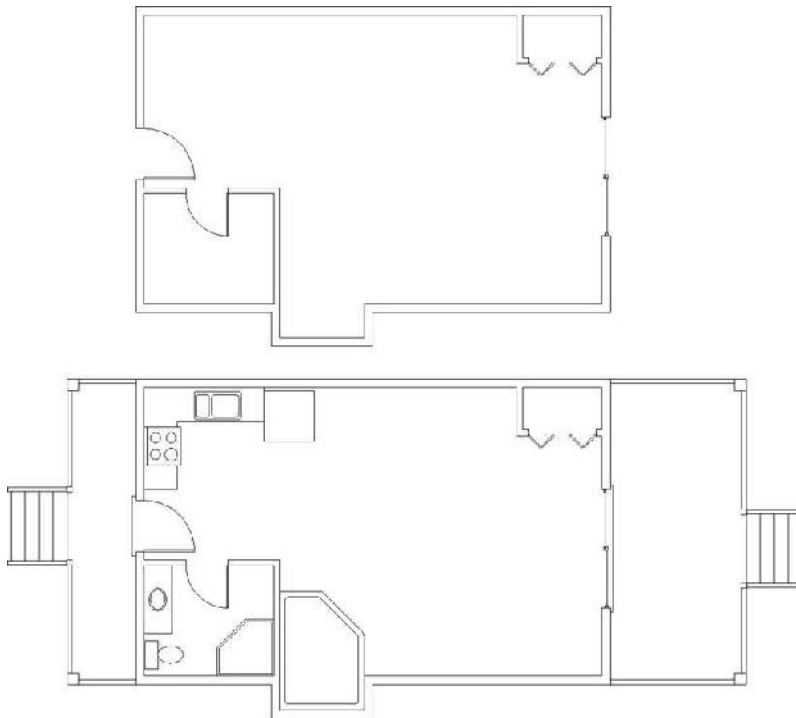

FIGURE 6.34: The floor plan after turning off the A-FLOR-FIXT layer (top) and with the visibility of all layers restored (bottom)
10. From the Home tab > Layers panel, select the Off tool and then click any object on the A-FLOR-FIXT (color 11) layer. By selecting an object on the A-FLOR-FIXT layer, you have graphically turned that layer off, making the objects on it invisible (see the top of Figure 6.34).
12. To restore the visibility of all layers at once by turning them on, expand the Home tab > Layers panel and select the Turn All Layers On tool. The bottom of Figure 6.34 shows the result.